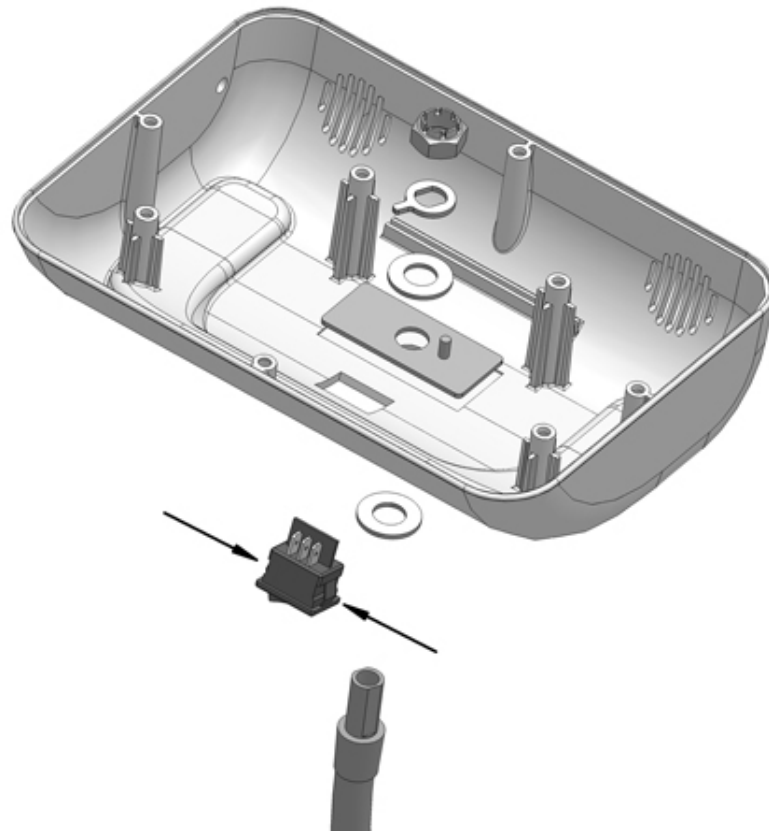

FIGURE 5
1. The switch is held in the light enclosure by spring tabs, two on each side of the switch. See figure 5.
The light enclosure is fastened to the adjustable arm, as shown above in figure 5.